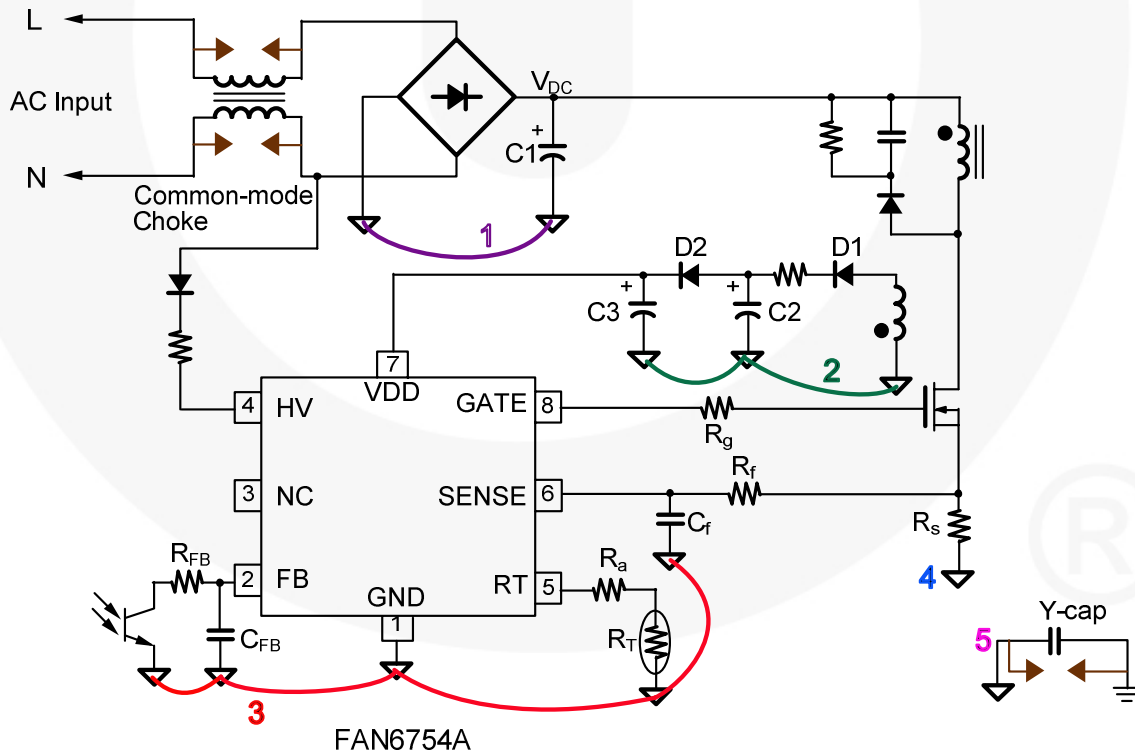

Figure 23. Layout Considerations
- To get better EMI performance and reduce line frequency ripples, the output of the bridge rectifier shown in Figure 23 should be connected to capacitor C1 first, then to the switching circuits.